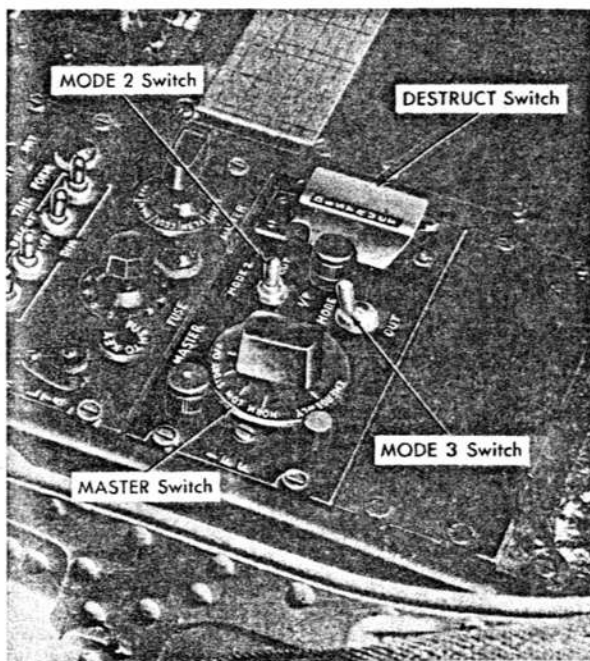

Figure 4-8. IFF Controls
**MASTER SWITCH.** The MASTER switch (figure 4-8) is located on the right-hand console. It is a five-position rotary switch and permits selection of operational characteristics as follows:
**MODE 2 SWITCH.** The MODE 2 switch (figure 4-8) is located on the right-hand console. It has three posi-
**MODE 3 SWITCH.** The MODE 3 switch (figure 4-8) is located on the right-hand console. It has two positions and energizes the Mode 3 features of the AN/APX-6 as follows:
**DESTRUCT SWITCH.** The DESTRUCT switch (figure 4-8) is located on the right-hand console. It is a two-position guarded switch and when placed in "ON" energizes the destruct circuit.